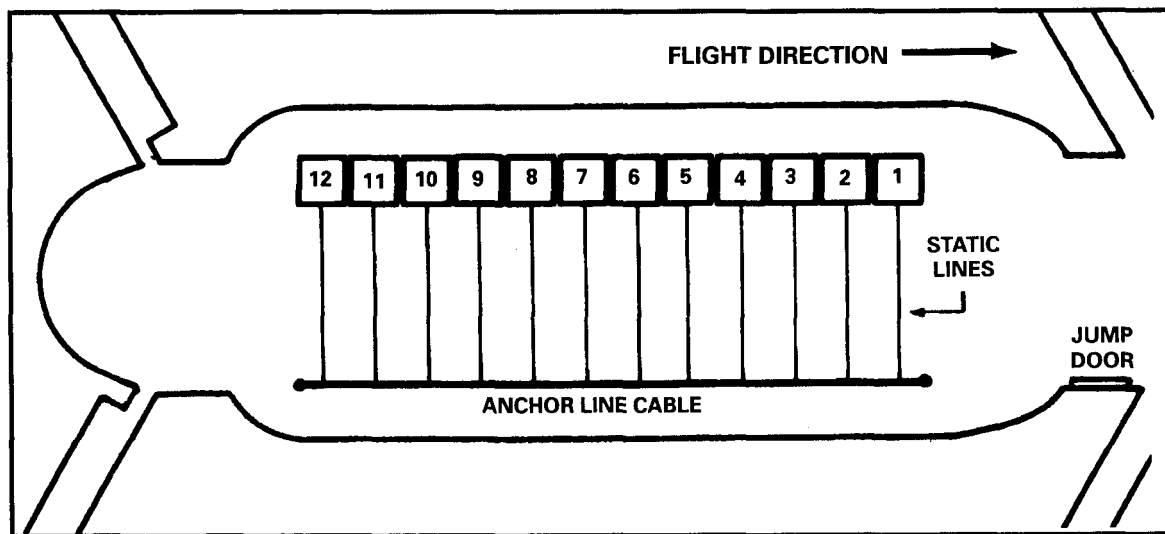

Figure 18-8. CH-46 door jump.
- (1) **GET READY.** All parachutists in the first stick unfasten their seat belts.
- (2) **STAND UP.** Parachutists stand up and move to the starboard side (Figure 18-8).